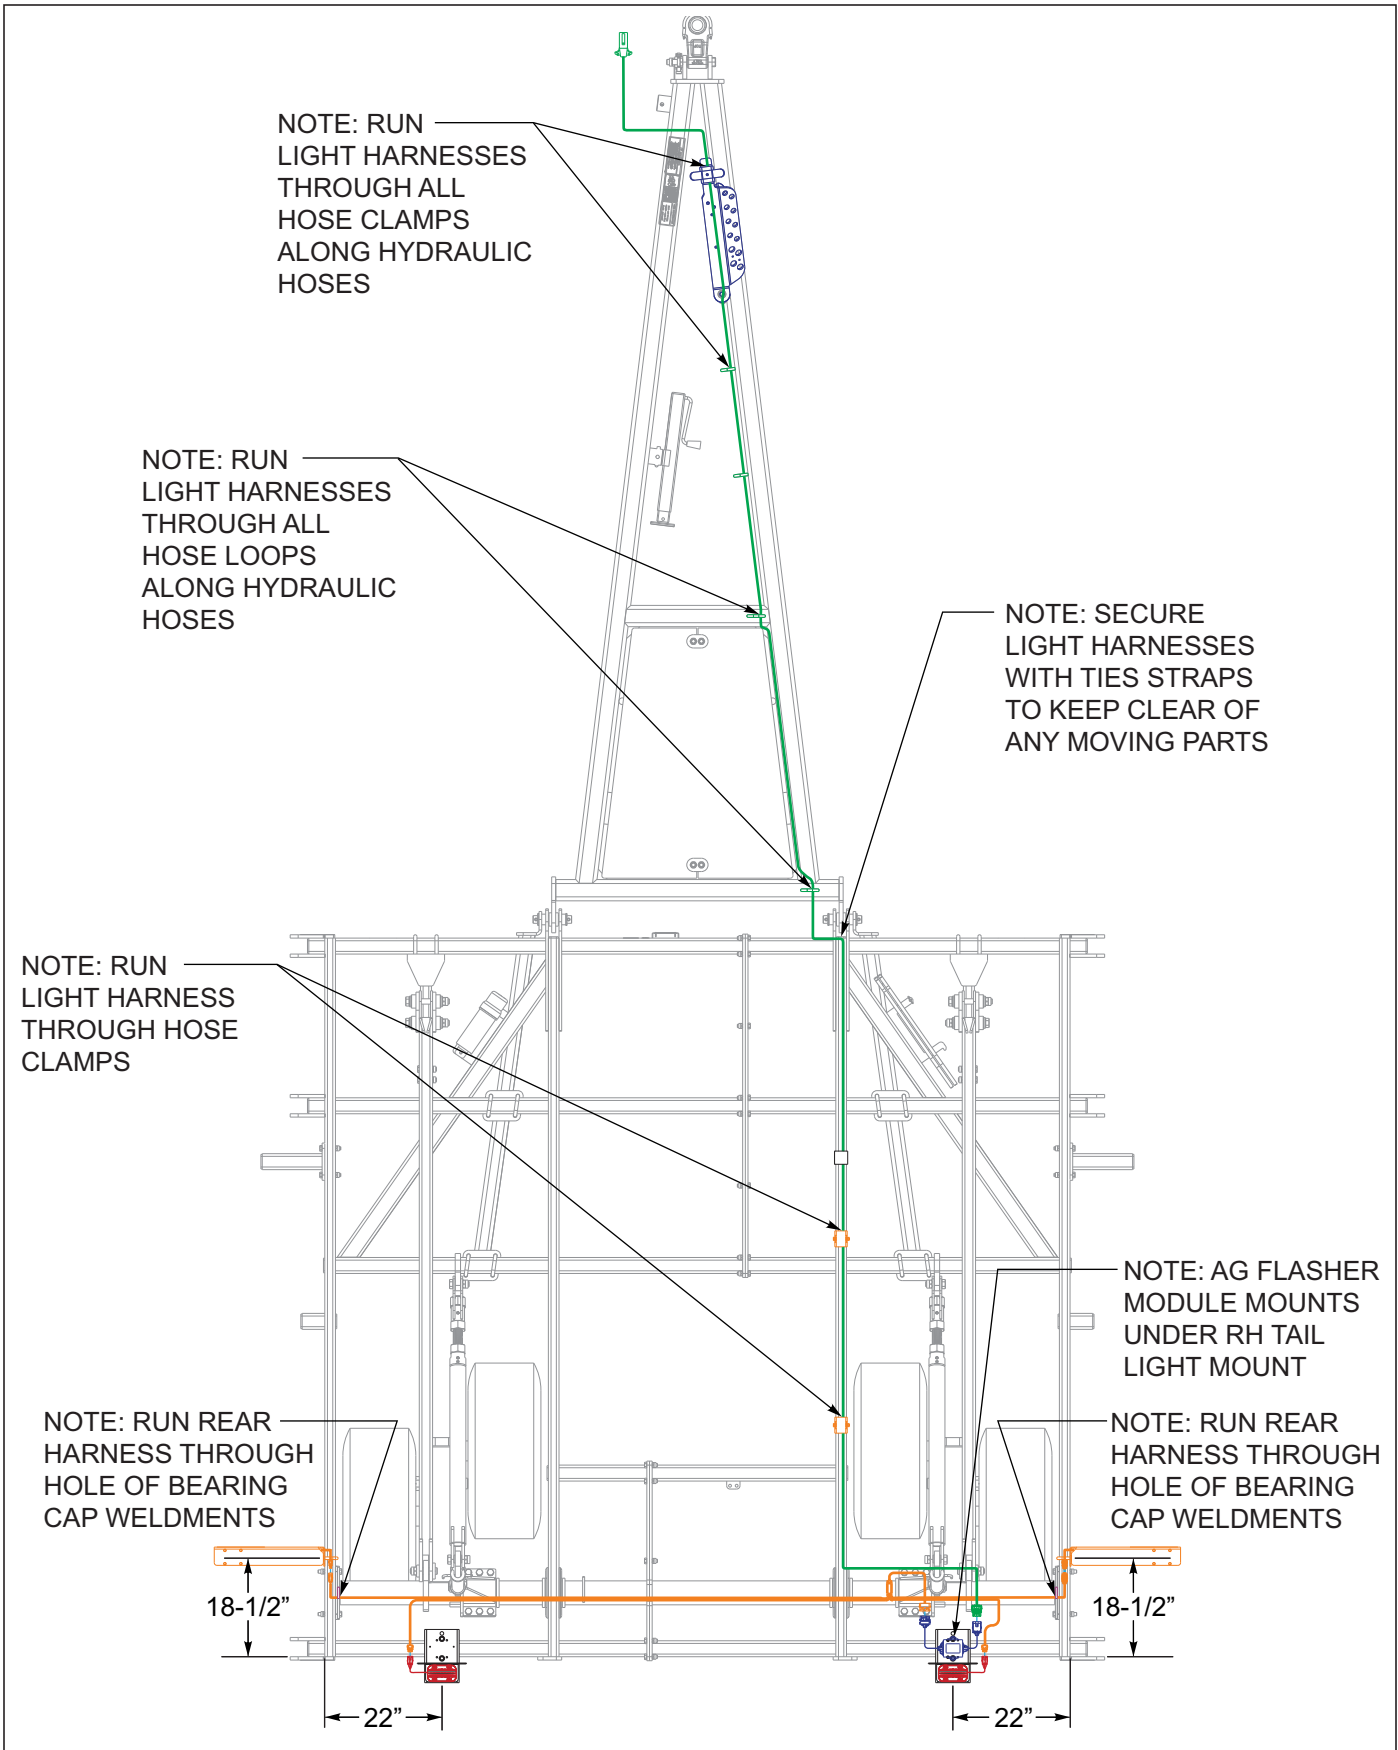

Figure 3-25: LED Light Layout
1. Attach LH and RH light bracket assemblies to center frame using 1/2 x 2-1/8 x 3-1/4 u-bolt and lock nuts **See Figures 3-24** and **See Figures 3-25** for light bracket placement location.
9. Insure that the harnesses are clear of any moving parts and secure the harnesses with tie straps provided. **See Figures 3-25** for light harness routing.